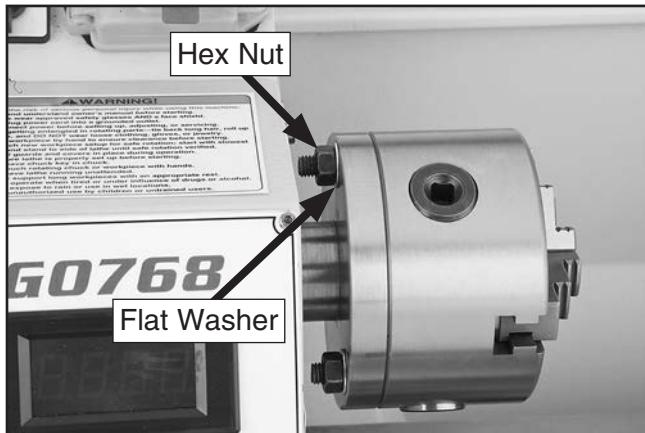

Figure 26. Chuck secured against backplate.
5. Use (1) 8mm flat washer and (1) M8-1.25 hex nut on each chuck screw to secure chuck (see **Figure 26**). Tighten hex nuts evenly a small amount at a time and in multiple steps.